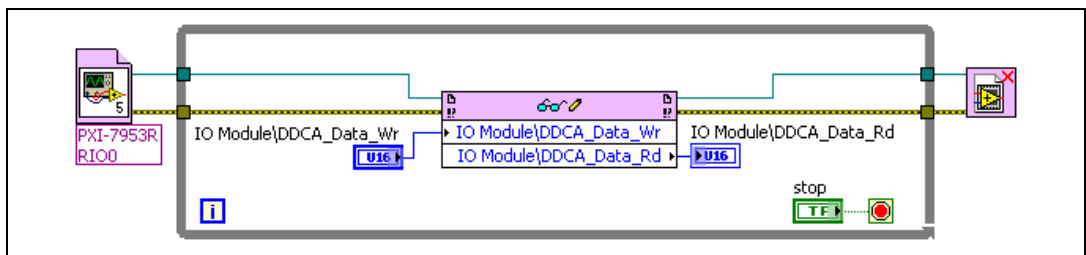

Figure 7. Data RW (Host).vi Block Diagram
7. Add a While Loop to the block diagram with a control on the loop condition, as shown in Figure 7.